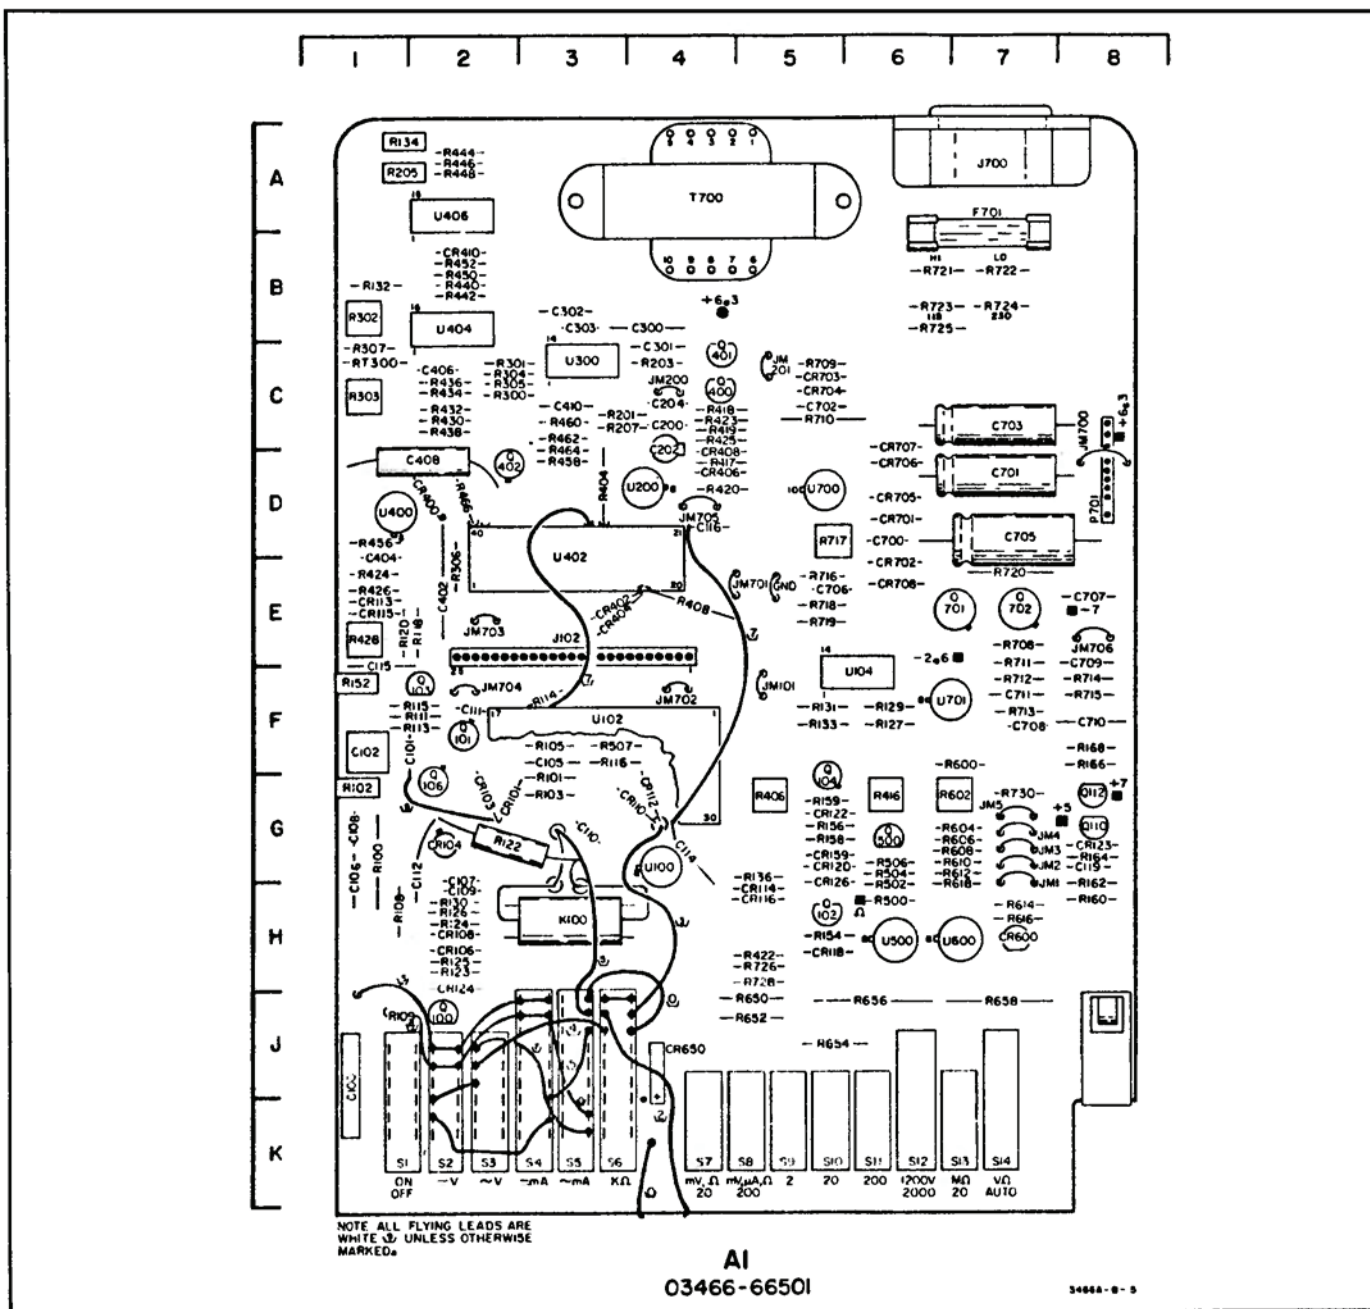

Figure 7-2. Component Locator for Changes #2, 7, and 16
7-13. Component Locator. Use component locator shown in Figure 7-2.
**7-26. Component Locator.** Use component locator shown in Figure 7-2. Capacitor C404 is located near U400.
7-51. Component Locator. Use component locator in Figure 7-2.